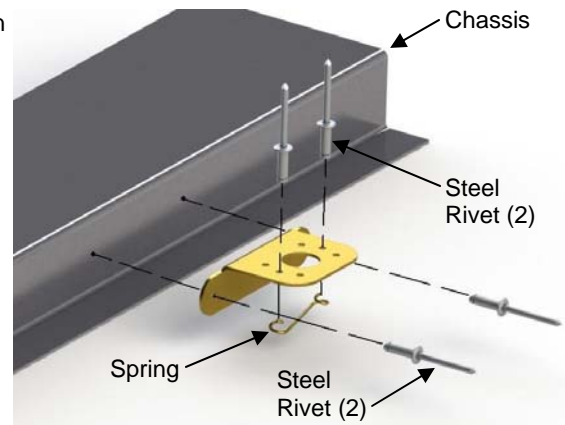

Figure 2
3. Once you determine the best location for the 90 degree mounting plates, begin the installation at the corners first. Mount the plates approximately 1/8" below the fender line as most fiberglass hoods and deck lids are 1/8" thick as indicated in Figure 2. The mounting plates are installed with the steel pop rivets supplied in the kit.